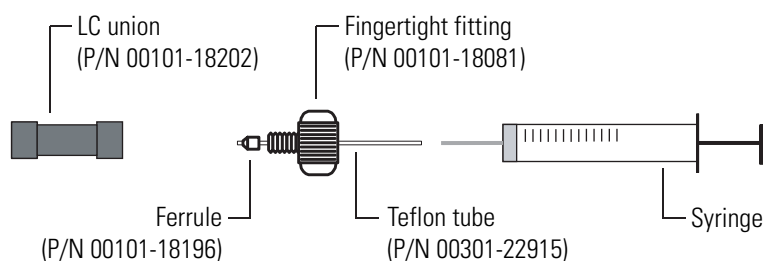

Figure 5-8. Connecting the syringe and the LC union
2. Connect a 4-cm (1.5-in.) length of Teflon™ tubing (0.03-in. ID \times 1/16-in. OD) with a fingertight fitting (for a 10-32 receiving port and 1/16-in. OD tubing) and a ferrule to the LC union. See Figure 5-8.